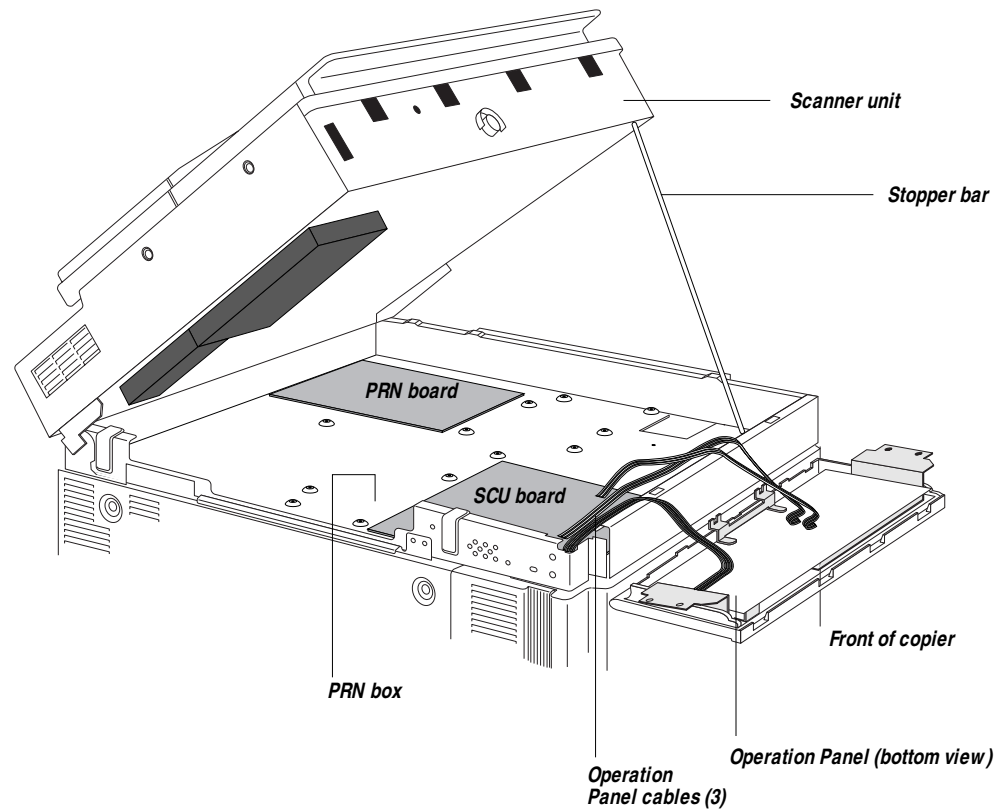

Figure 3-4 Accessing the A189 PRN box
6. **Lift the scanner unit and prop it up with the stopper bar (see Figure 3-4).**